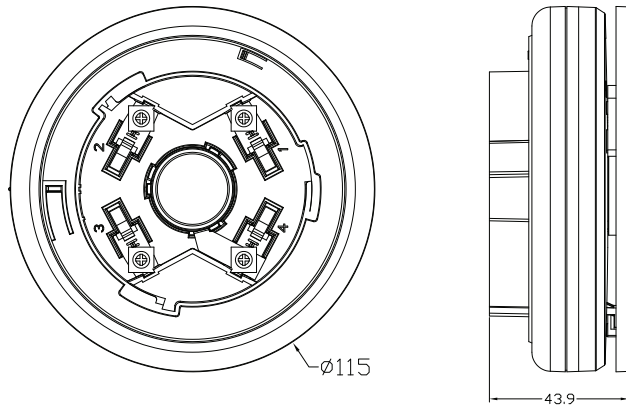

Fig.1
- 10) Dimension:  $\phi 115\text{mm} \times \text{H}44\text{mm}$  (with bracket) , See Fig.1